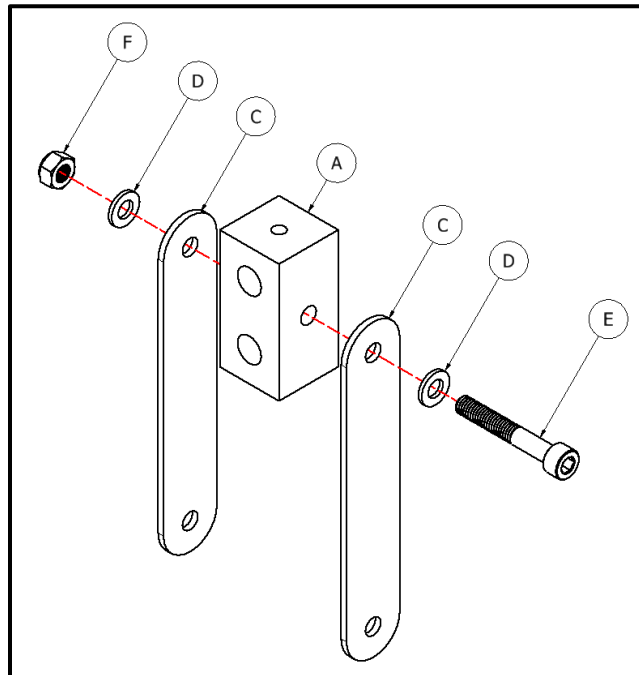

Figure 9. 90243A-803 and 90243A-804 Wall Mounting – Step 2
2. Attach two Tie Bars (Part C) to Pivot Nub (Part A) using two flat washers (Part D), 1-5/8" long screw (Part E), and lock nut (Part F) as shown in Figure 9.